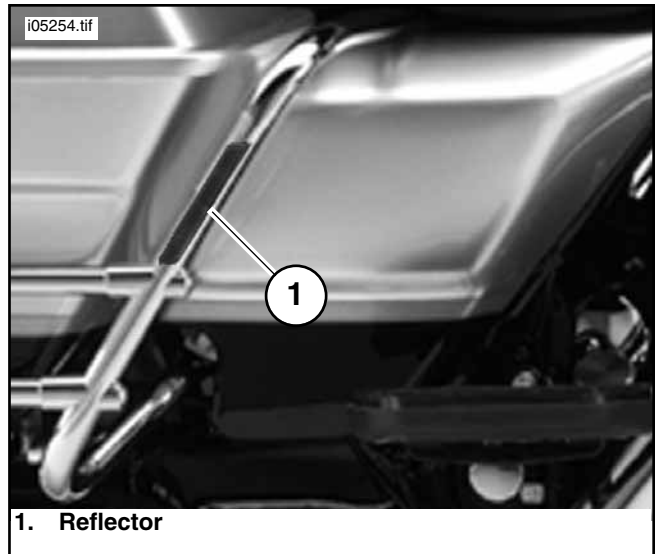

Figure 2. Reflector Installation
15. See Figure 2. Install the reflectors from the kit onto the saddlebag guard as shown.